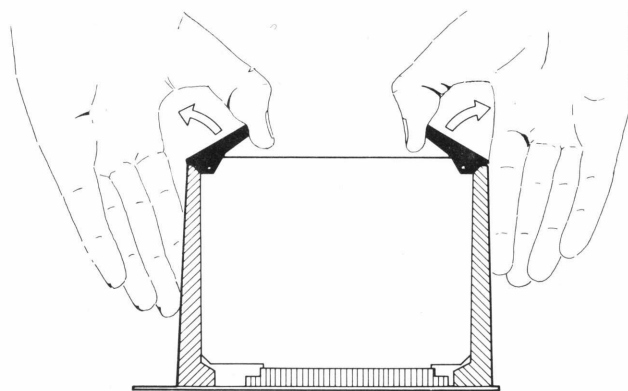

Fig. IX-5 Removing the printed-wiring cards
- Pull up the printed-wiring cards according to Figures IX-5 and 6.
- Pull up the card according to Figures IX-5 and 6.